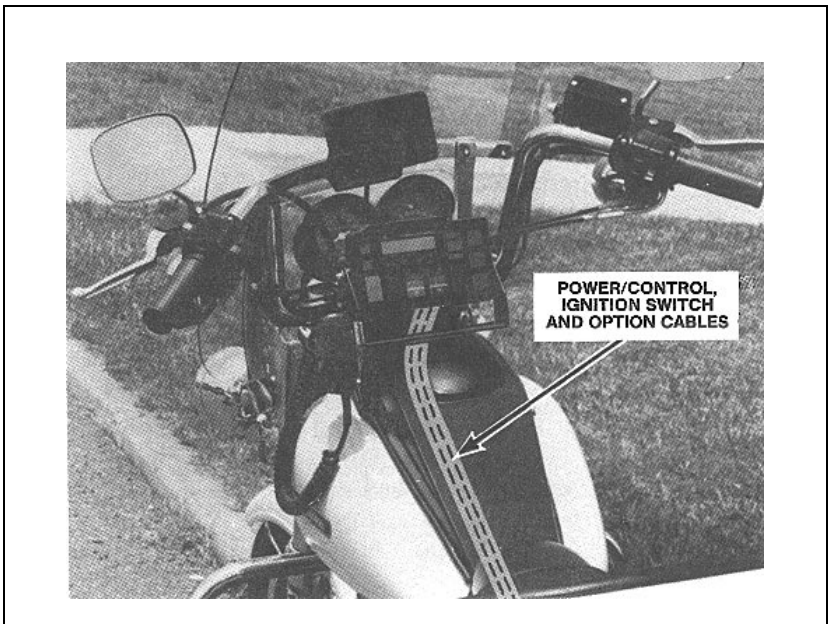

Figure 12. Cable Routing to the Control Unit
- b. Run the cables from the saddle area up the left side of the gas tank to the area of the control unit (see Figure 12).